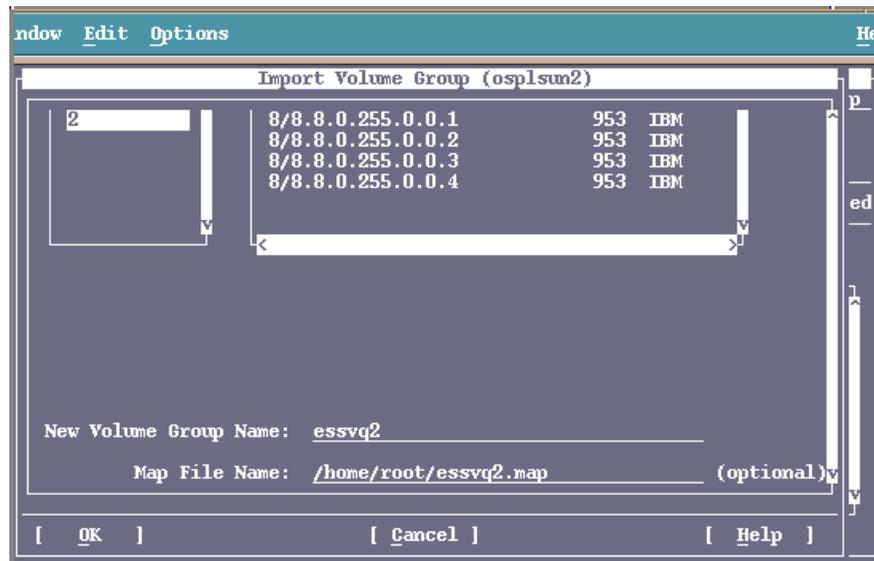

Figure 45. Screen display of SAM of import volume group
15. Then use the tab key to select **OK** to import the volume group (Figure 45).